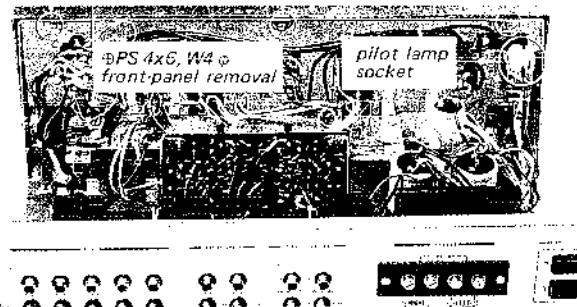

Fig. 2-3 Front-panel removal (1)
4. Remove the three screws (\oplus PS 4x6) behind the top edge of the front subchassis assembly, as shown in Fig. 2-3.
2. Straighten the tab of the pilot-lamp holder to permit the removal of the lamp socket; then pull out the lamp socket. See Fig. 2-3.